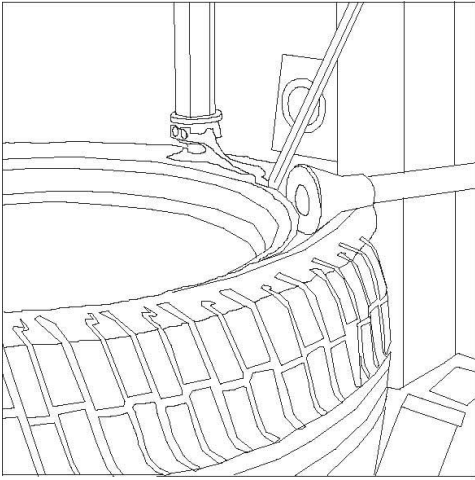

Figure 6-1
- 1). Auxiliary fixes of dismounting head and insert crowbar Dismantle the side of tire according to correct rim size, press the upper side of tire with tire press roller ,fix the dismounting head and insert crowbar(figure 6-1),move up the tire press roller and